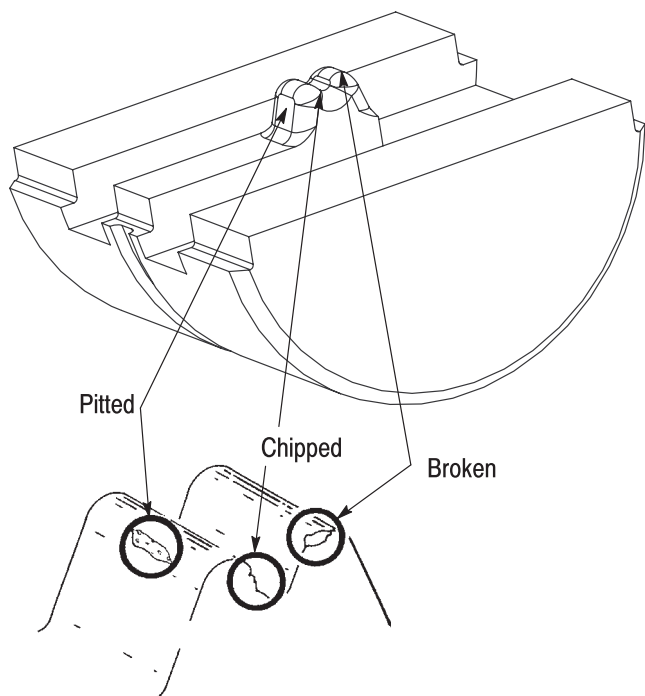

Figure 6
A. Visual Inspection (Figure 6)
2. Check all surfaces for wear. Inspect the crimp area for flattened, chipped, cracked, worn, or broken areas. See Figure 6. If damage is evident, the die must be replaced.